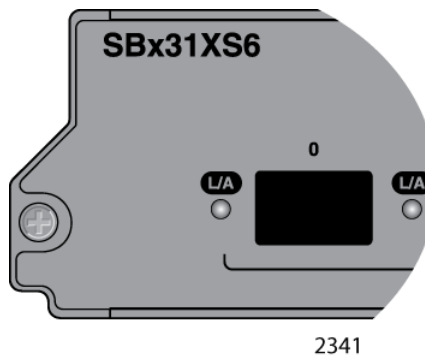

Figure 30. SFP+ Slot LEDs on the AT-SBx31XS6 Line Card
**LEDs** The AT-SBx31XS6 Line Card has one LED for each SFP+ slot. The LED is shown in Figure 30 on page 53 and described in Table 13 on page 53.